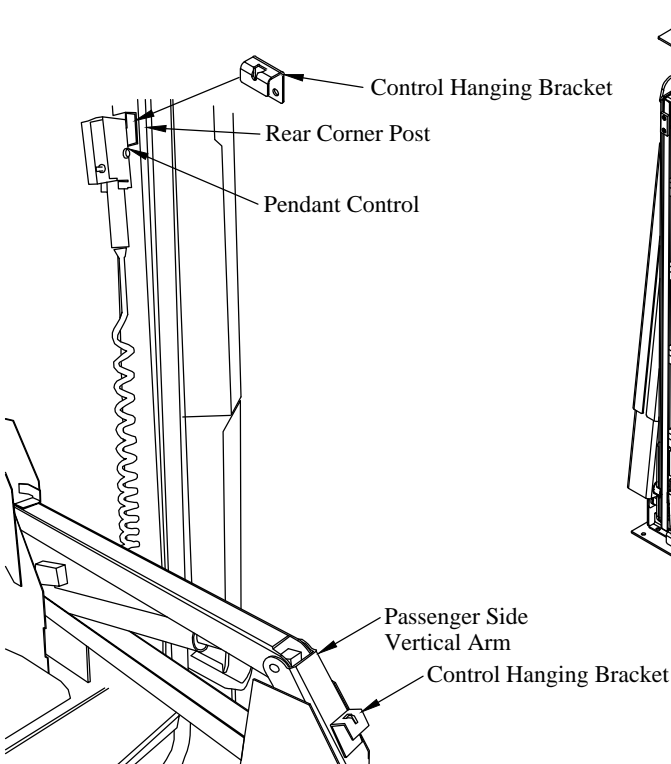

Figure 19: Control Hanging Brackets.
7. **Select** a location to install the control hanging bracket. Use a location on the passenger side rear corner post of the van at a height that allows the entire pendant cord to be completely inside the van when stored (Figure 19).